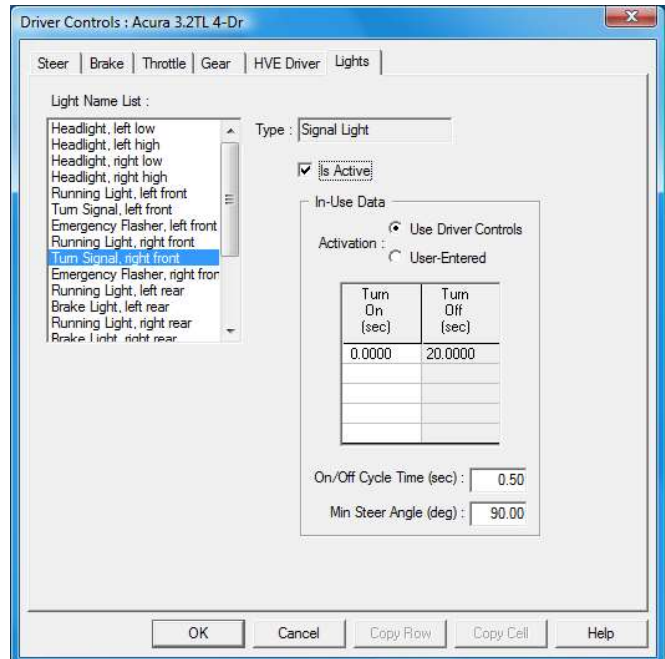

Figure 2 - Vehicle Lights Set-up dialog, showing the activation of the right front turn signal
- Click the Lights tab. The Lights Set-up page is displayed (see Figure 2).